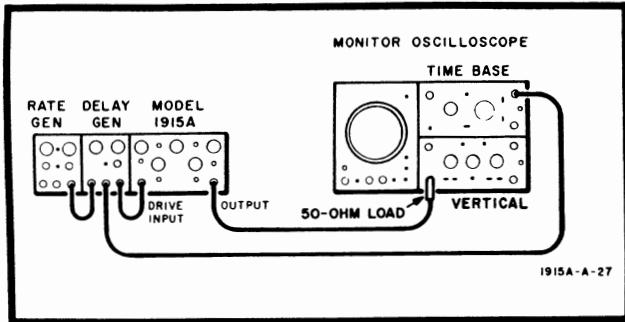

Figure 3-4. Basic Operating Setup
- With Model 1900A mainframe power off, connect the equipment as shown in Figure 3-4.